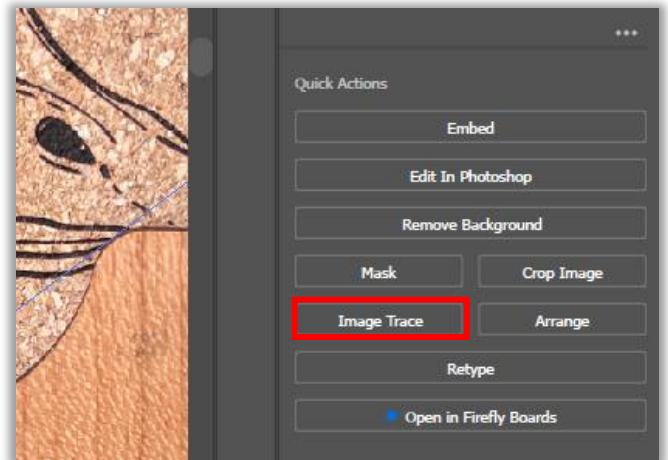

Figure 15: The options in the Properties Panel when an image is selected. The Image Trace button is outlined in red.
2. Click on your Image. A button that says “Image Trace” should appear at the bottom of the Properties Panel (**Figure 15**)